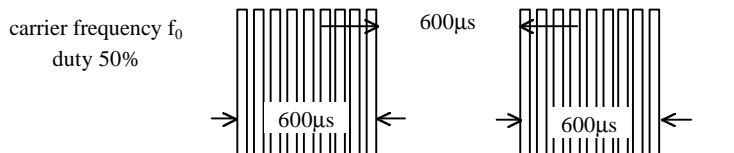

Fig 1. Burst Wave
(3) Standard transmitter ... Burst wave indicated in Fig 1. of standard transmitter